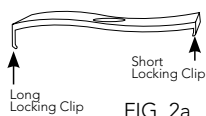
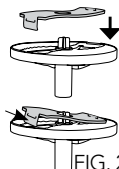

FIG. 2a.
FIG. 2b.
2. Locate the short and long locking clip on the blade as illustrated in Fig. 2a. First insert the short locking clip into the designated slot on the disc and then push the other side of the disc with the long locking clip until it is firmly locked in place as illustrated in Fig. 2b.